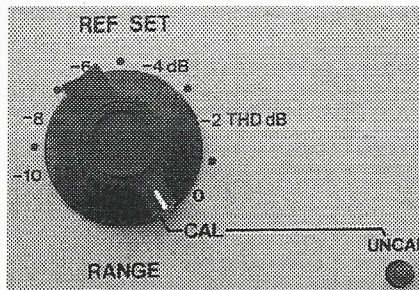

Figure 6. Adjustable Reference Set Control and UNCAL LED Close-up View
The Adjustable Reference Set Control (9) allows uncalibrated meter readings, such as for making relative power measurements. The meter readings are calibrated when this control is in its most clockwise and locked position. Turning the control counter-clockwise provides up to 10 dB of continuously variable meter adjustment range. When the control is in the unlocked, or uncalibrated position, the UNCAL LED (10) will be illuminated. Refer to Section 4.2.2 on page 19 for an explanation of the THD dB function. Figure 6 shows a close-up of the control and LED.
- b. THD can now be read on the meter's dB scale. With the **Reference Set Control** in the **THD dB** position, the reading will be in dB below maximum input signal (See Figure 6 on page 11 for a close-up view of the **Reference Set Control** and its markings.). If the frequency or input level is changed while making measurements, the meter will go to zero for two or three seconds, and then it will display the new reading.